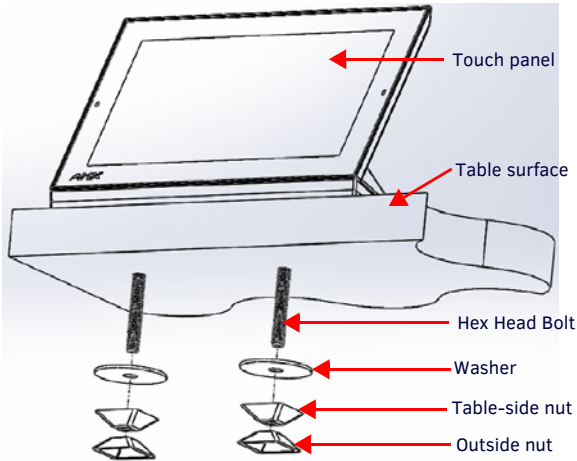

FIG. 3 INSTALLATION, UNDERSIDE OF THE TABLE SURFACE
- On the underside of the table, put a washer and then one of the tamper-proof nuts on the end of each hex head bolt (FIG. 3). Make sure that the wide side of the tamper-proof nut is facing the underside of the table. Finger-tighten the tamper-proof nut.
- Attach the spare outside nut to the end of the Hex Head Bolt, wide side away from the table, and finger-tighten to the table-side nut (FIG. 3).